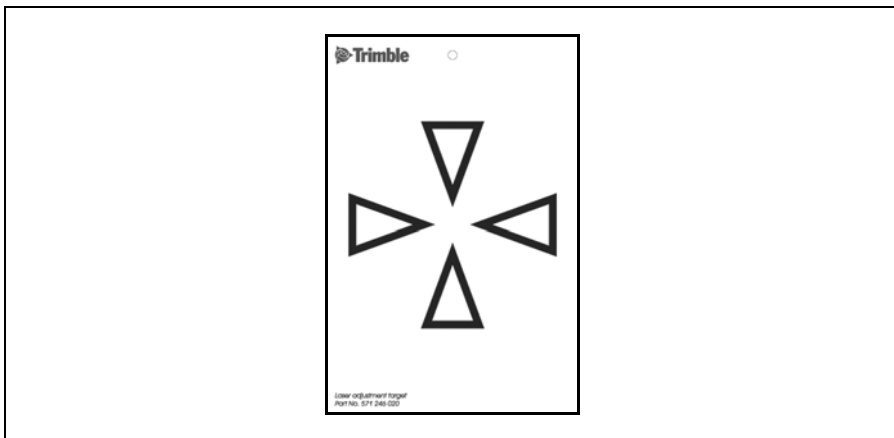
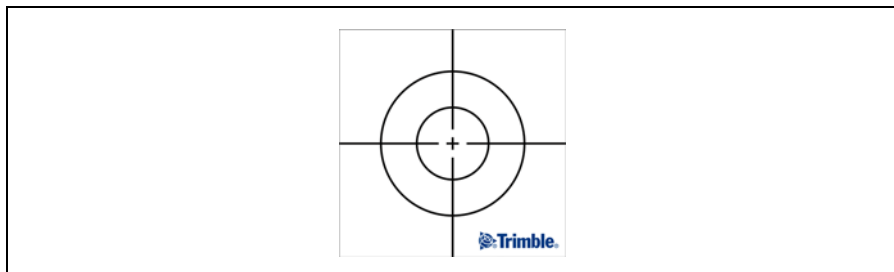

Figure 4.34 Adjustment target for DR PLUS
Figure 4.35 Adjustment target with reflective foil for High Precision
3. If the red laser spot lies outside the cross-hairs, adjust the direction of the beam until it matches the cross-hairs, see Figure 4.34 or see Figure 4.35